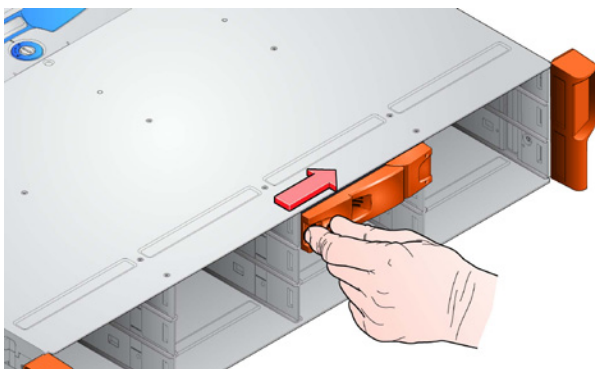

Fig. 38 - Removing a Drive Carrier Module (1)
2. Release the carrier handle by pressing the latch in the handle towards the handle hinge (i.e. towards the front of the enclosure). See Fig. 38.